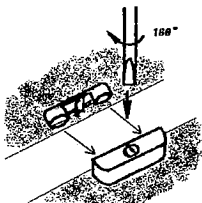
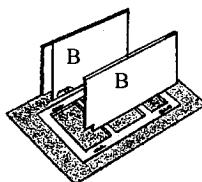

Figure 1
Figure 3
3. Install side panels (Figure 3): insert right and left side panels (B) into the grooves of face frame (A) and align the cam lock connectors (Figure 3). Lock the cam lock with a screwdriver by turning the screw 180 degree clockwise (Figure 1).